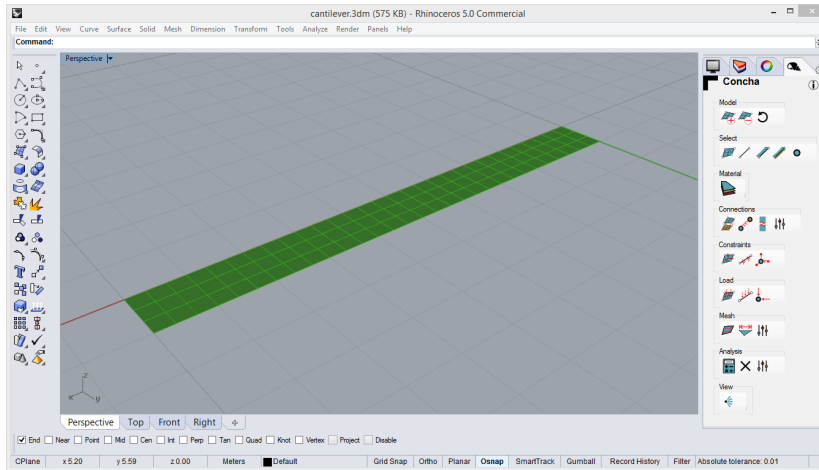

Figure 4: Finite Element mesh
Now, the problem is fully described and the analysis can be started. As a preliminary, the Finite Element (FE) mesh is needed. Therefore, the command `ConchaCreateMeshes` gives directly a mesh for the model geometry. If a different mesh is requested, the command `ConchaMeshSettingsSurface` allows to fine-tune the meshing algorithm per surface. Here, a maximal mesh size of 0.4 is used and the mesh as in Figure 4 is obtained.